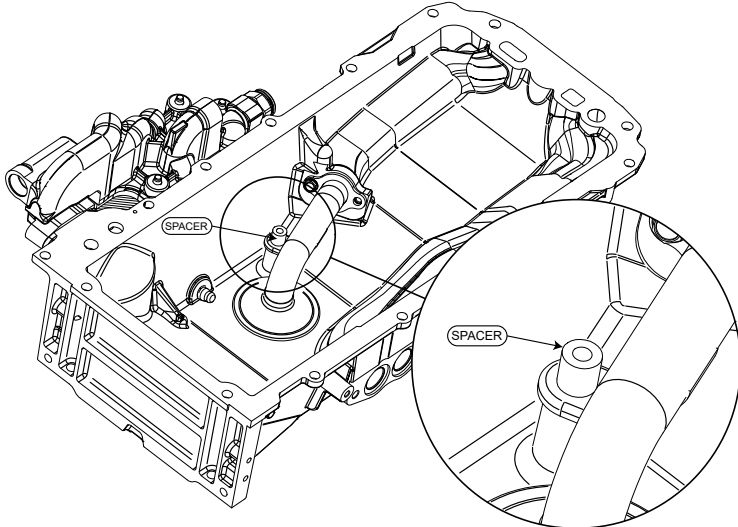

Figure 2 - Installing the Spacer
9. Place the spacer on oil pickup tube flange, shown in Figure 2.